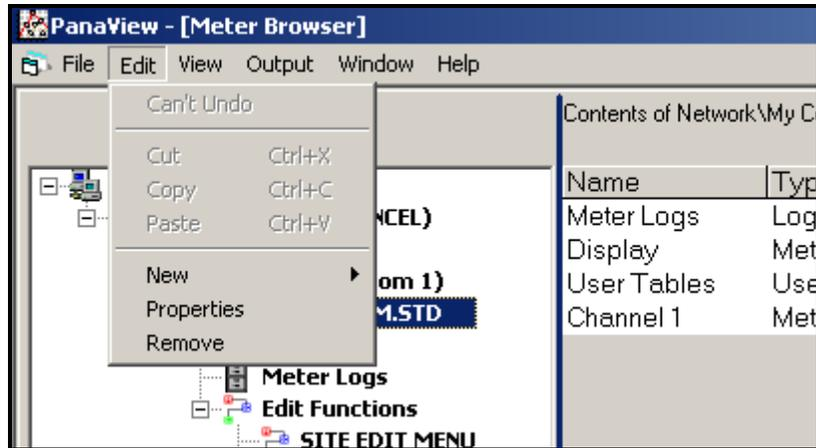

Figure C-15: The *Properties* Option
2. Right-click on the highlighted XGM868i and select the *Properties* option, as shown in Figure C-15 below.